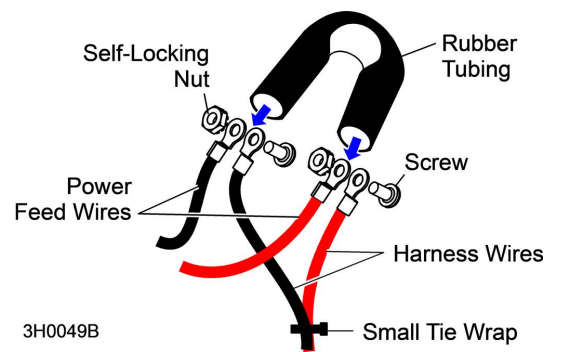

FIG. 1-16
10. Slip one end of the rubber tube around each wire/harness connection. **See Fig. 1-16.**